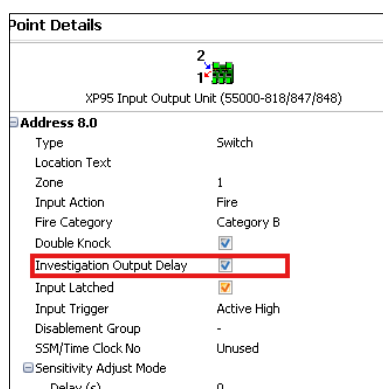

Figure 6
- **Per Point** – individual inputs can be set to follow delay within their loop settings. **Figure 6** below shows how to set individual devices to follow the delay.